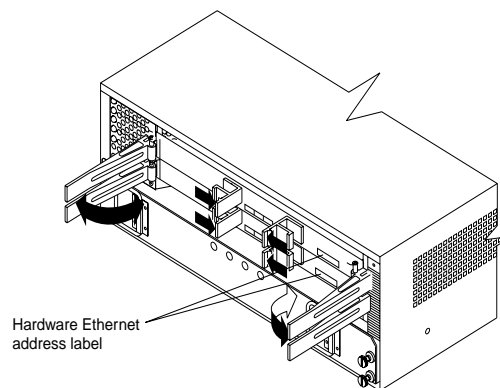
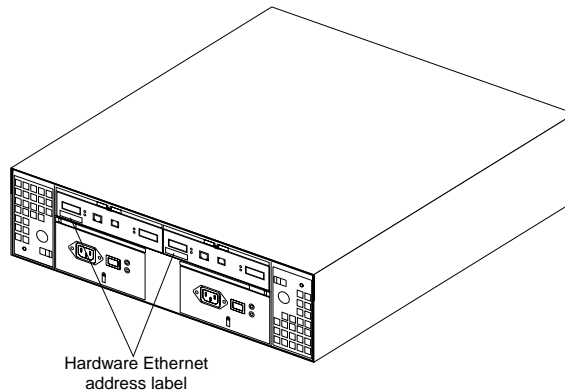

Figure 7. Location of the hardware Ethernet address (machine types 3526 and 3552)
Figure 8. Location of the hardware Ethernet address (machine type 3542)
3. The controller hardware Ethernet address labels are located on the front of each controller, as shown in Figure 7 on page 17 and Figure 8.